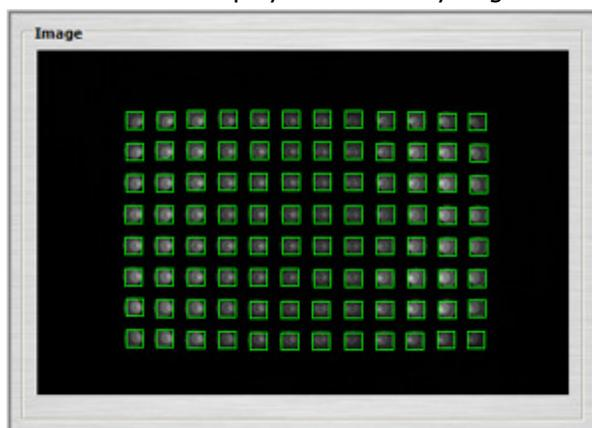

Fig. 7.2. Camera Image with Overlying Mask Array.
4. Click Show Mask. The Mask is displayed as an array of green boxes (Figure 7.2).